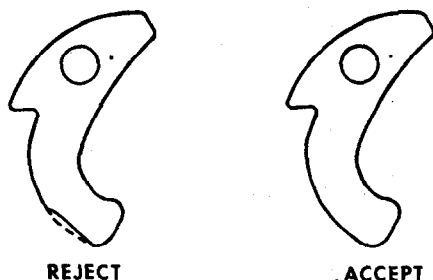

Figure 6. Flyweight Tail Condition Check
4. Flyweight tail condition must be given a visual examination to determine if flyweight is still serviceable. The surface at the apex of the beveled edge must blend smoothly with the outer contour of the flyweight. No flattening, denting or chipping is permissible. Any irregularity of this surface is cause for immediate rejection of the cam assembly. (See figure 6)